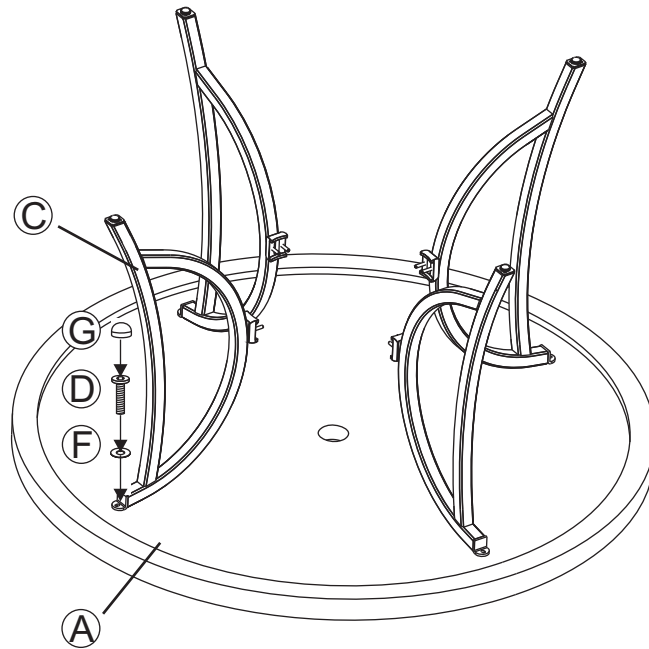

Figure 1
Step 3: Important: We recommend 2 people work together to assemble the chair. Note the arrow labels on the "U" bar and the rocker assembly. Also note the horseshoe shape of the rocker plate. Point the open end of the horseshoe away from you. The arrows on the rocker assembly should be pointing towards you. Set the chair frame on the rocker assembly with front of the seat facing you and the arrows on the "U" bar pointing towards you as shown in *Figure 1*. This is very important for a safe, balanced rocking motion. **If chair frame has been properly positioned on the rocker assembly, all arrows on the "U" bar and rocker assembly will be pointing in the same direction.**
step and carefully examine. Insert the "U" metal plate, so that the "U" bar and rocker plate are between both sides of the "U" metal plate. Make sure that the holes in the "U" metal plate are completely aligned with the holes in the "U" bar as shown in *Figure 1*. Guide the bolts through the holes on the top side of the "U" metal plate, through the holes in the "U" bar portion of the chair, through the holes in the rocker plate and then, most importantly, through the holes in the bottom side of the "U" metal plate. It is very important that the holes in the bottom portion of the "U" metal plate be placed directly beneath the holes in the rocker plate. Add a spring washer and a nut to each bolt as shown in *Figure 2*. **Hand tighten nuts 3-4 revolutions only.** Repeat the same procedure on the other side.
- 1 Place the table top upside down on a flat, non-abrasive surface. Attach a table leg to the table top by using the bolts and washers as shown in the **Figure 1**. Guide the bolts through the holes in the table leg, into the pre-drilled holes in the table top. **Hand tighten 2-3 turns only**. Repeat for the other three legs.